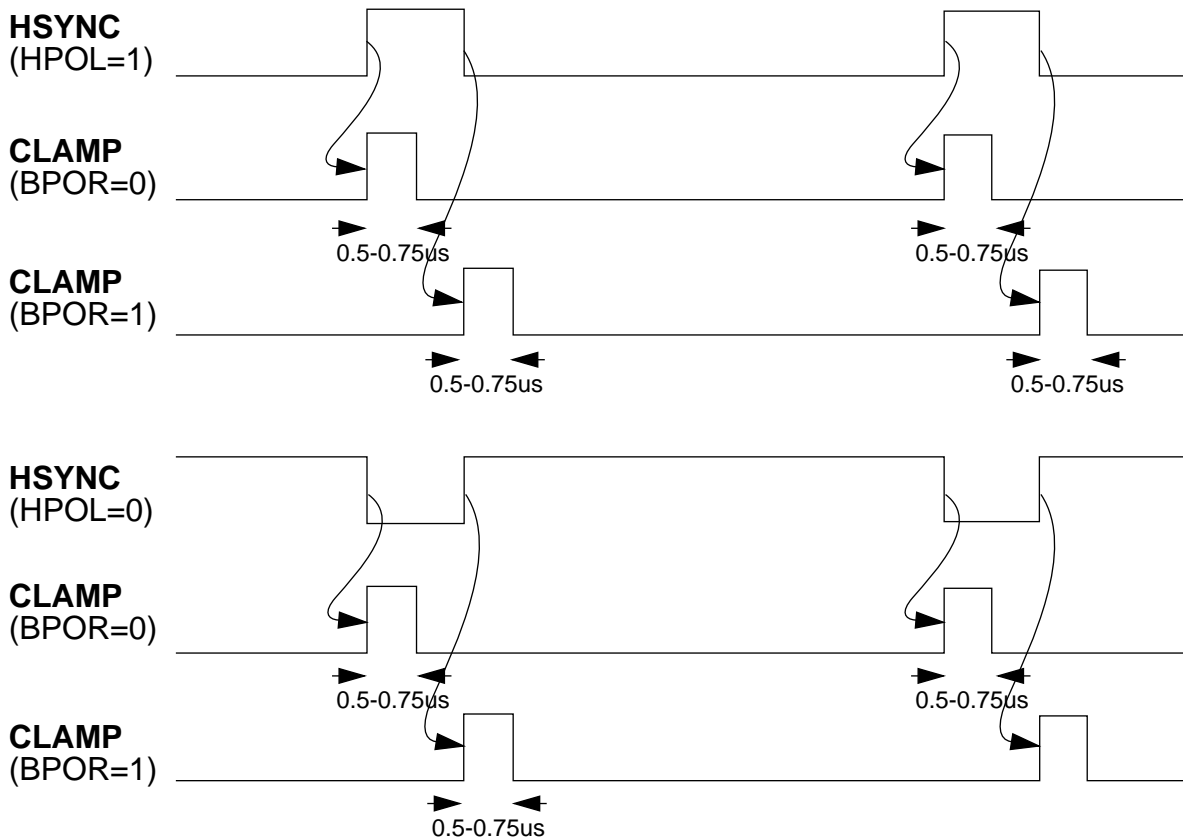

Figure 10-1: CLAMP output waveform
The logic will generate a 0.5us - 0.75us pulse at either the leading edge or the trailing edge which is specified by the **BPOR** bit in the **SPIOCR** register. See **Figure 10-1** for its detail timing relation. One control bit to invert the output polarity of CLAMP pulse is located at bit 5 of **SPIOCR**.
- COINV bit 5 This Clamp Output INVert bit will invert the CLAMP output. When it is zero, the CLAMP output has default positive going pulse as illustrated in **Figure 10-1**. When it is one, the CLAMP output is inverted as negative pulse generated. Reset clears this bit.